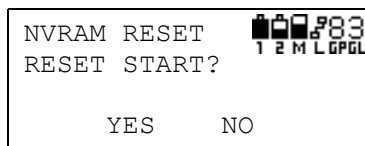

Figure 3-155. Start NVRAM Reset?
3. Wait until the NVRAM RESET menu displays, then release the F1 and F4 keys (Figure 3-155).
4. Press **F2** to start the NVRAM reset (Figure 3-155).